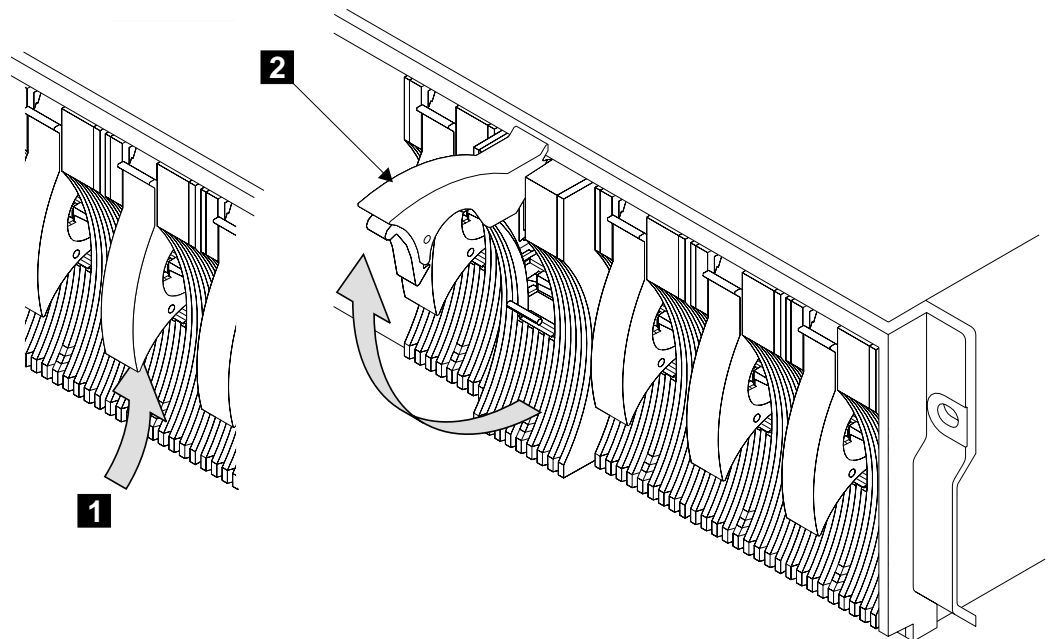

Figure 23. Opening the Handle of a Disk Drive Module
- Step 10. Refer to Figure 23.